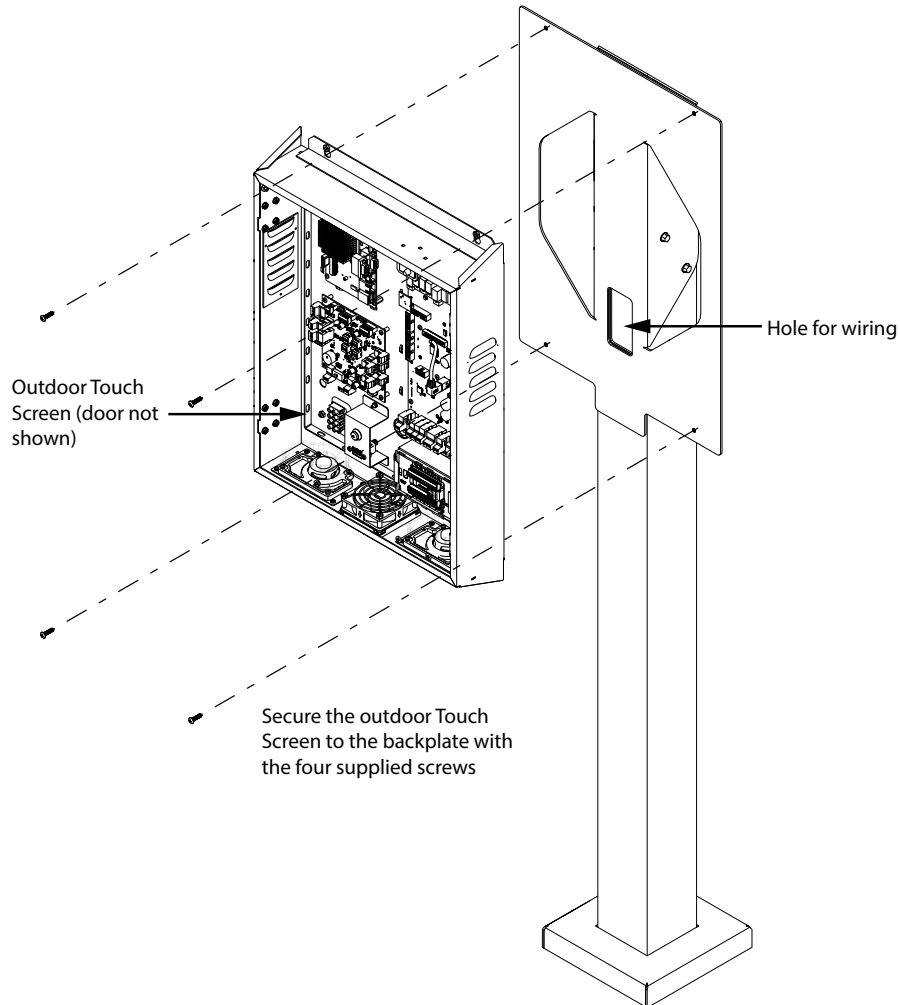

Figure 6. Mount the outdoor Touch Screen on the backplate
3. Tighten all 4 screws into place as shown in figure 6.